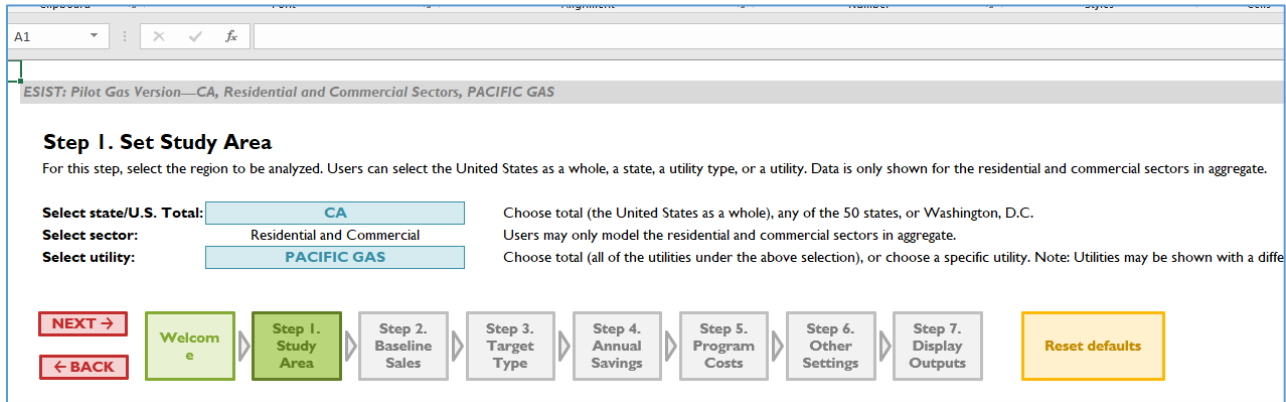

Figure 1. “Set Study Area” page in the pilot gas ESIST tool
4. You are now on the "**Step I. Set Study Area**" page (see **Figure 1**, below). On this page, complete the four blue boxes in the upper left as they apply to the project by choosing from the dropdown lists in each box: